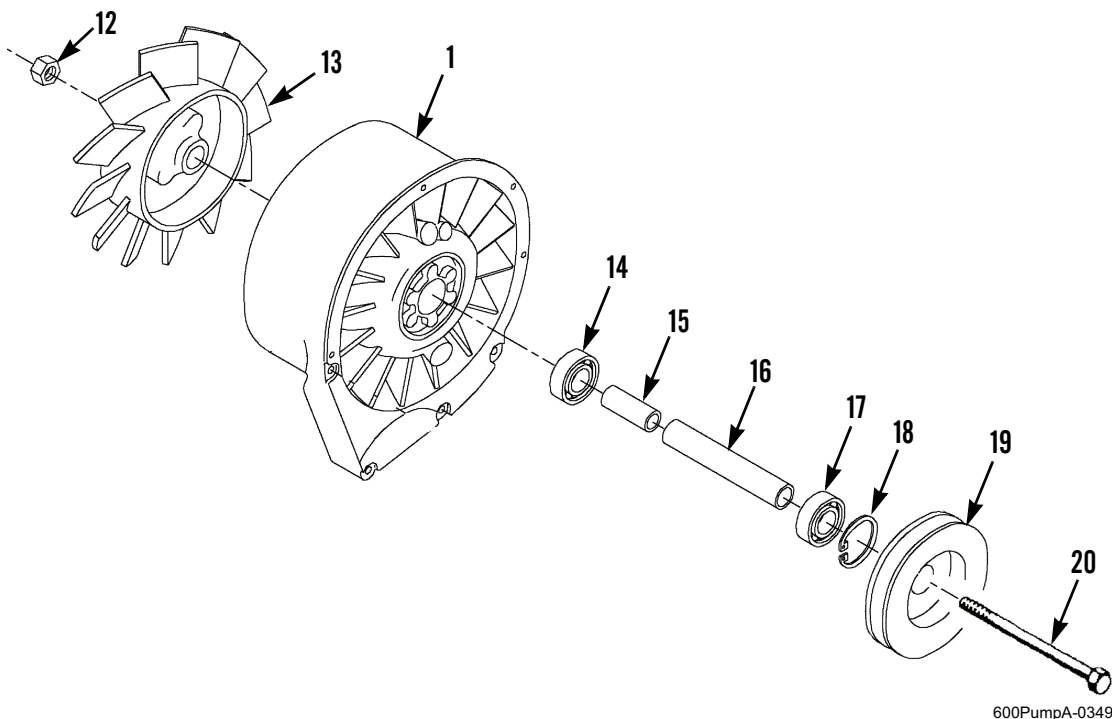

Figure 2. Cooling Fan - Exploded View.
1. Remove nut (Figure 2, Item 12) and bolt (Figure 2, Item 20) from cooling fan assembly (Figure 2, Item 1).
2. Remove impeller (Figure 2, Item 13) from shaft (Figure 2, Item 16) and cooling fan assembly (Figure 2, Item 1).
3. Pull pulley (Figure 2, Item 19) and shaft (Figure 2, Item 16) out of cooling fan assembly (Figure 2, Item 1).
4. Remove pulley (Figure 2, Item 19) from shaft (Figure 2, Item 16).
5. Remove circlip (Figure 2, Item 18), bearing (Figure 2, Item 17), bushing (Figure 2, Item 15), and bearing (Figure 2, Item 14) from cooling fan assembly (Figure 2, Item 1). Discard circlip.